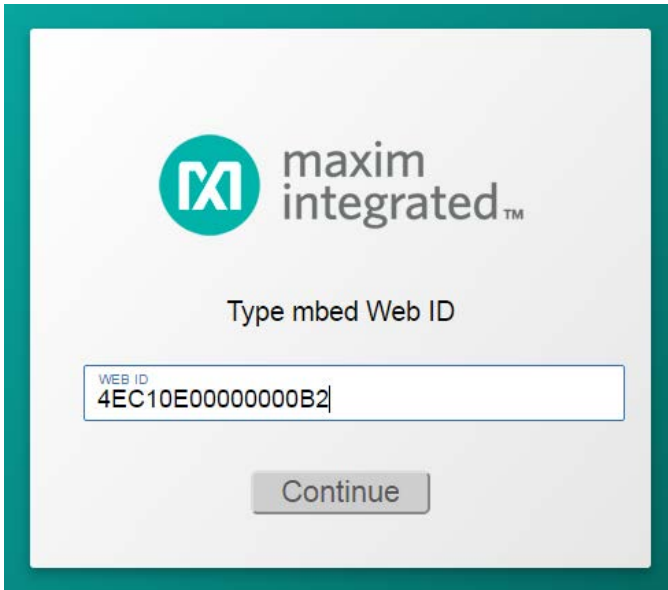

Figure 11. and enter your mbed Web ID.
5. Type in the 64-bit Web ID that you wrote down from the **Demo Setup**, step 3 as shown in **Figure 11**, and click on **Continue**